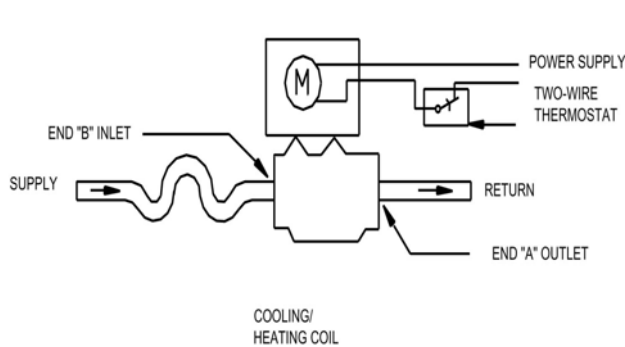

Fig. 2 Two-way valve
1. Normal-closed 2-way and diverting 3-way valves are installed as Fig. 2 and 3. For high building, pressure-reducing valve should be installed on branch pipe at ground floor.